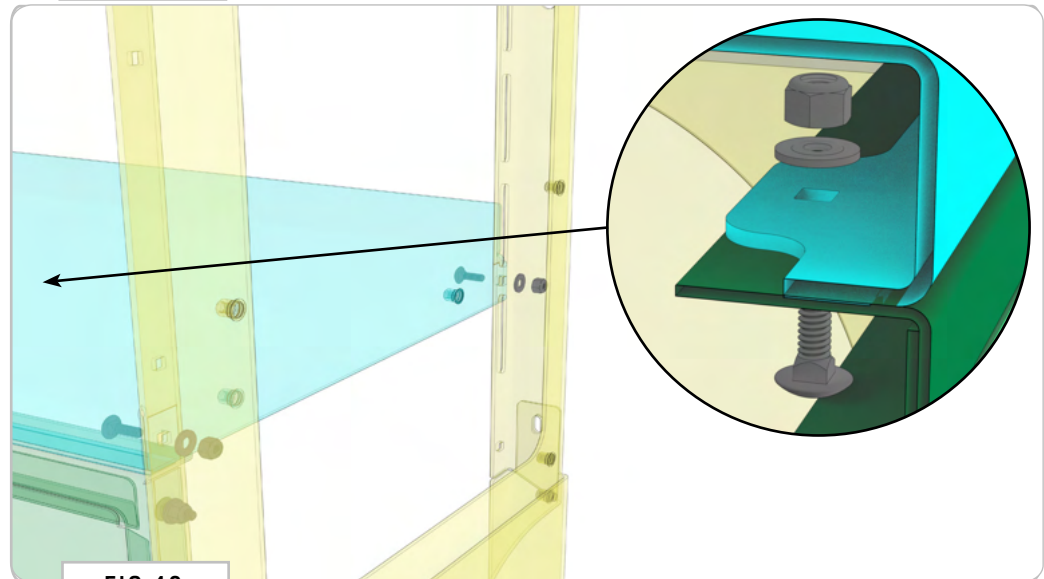

FIG 48
3.7 Install Cabinet Shelf: Attach the **Cabinet Shelf** to the **Left and Right Cabinet Ends** using **(4) 1/4-20 x 0.75 Square Neck Carriage Bolts, Flat Washers and Nylon Locknuts**. There's a final mounting location in the middle of the unit that will take **(1) 1/4-20 x 0.75 Square Neck Carriage Bolt, Flat Washer and Nylon Locknut** to finish out this step (FIG 48).